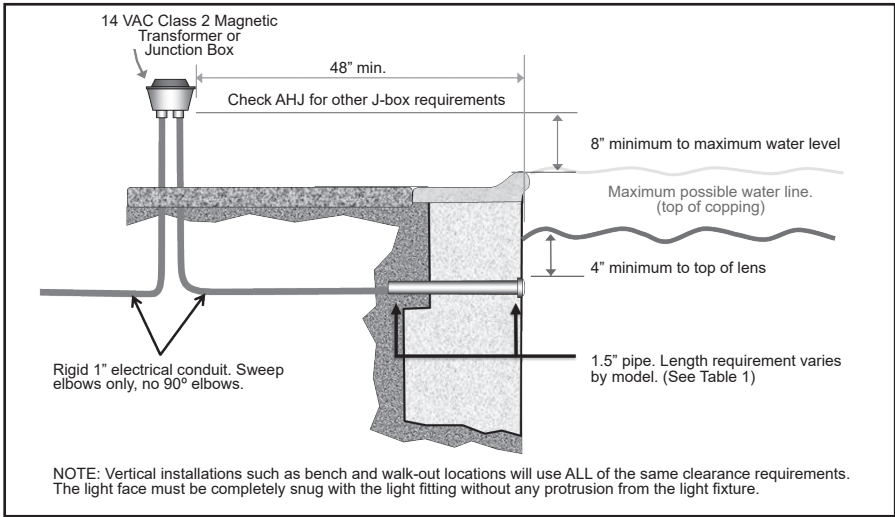

Figure 1. Jandy® LED Light Installation with Standard 1.5" Plastic Fitting
NOTE: The electrician must complete preparatory steps before light fixture is installed. See Figure 1.
1. The junction box or Infinite WaterColors LED Light Controller is suitable for direct conduit connection to lights and must be located at least (8) inches above water level, at least four (4) inches above ground level, and at least 48 inches (4 feet) from the edge of the pool, or as required by local code. See Figure 1.
See Figure 1.